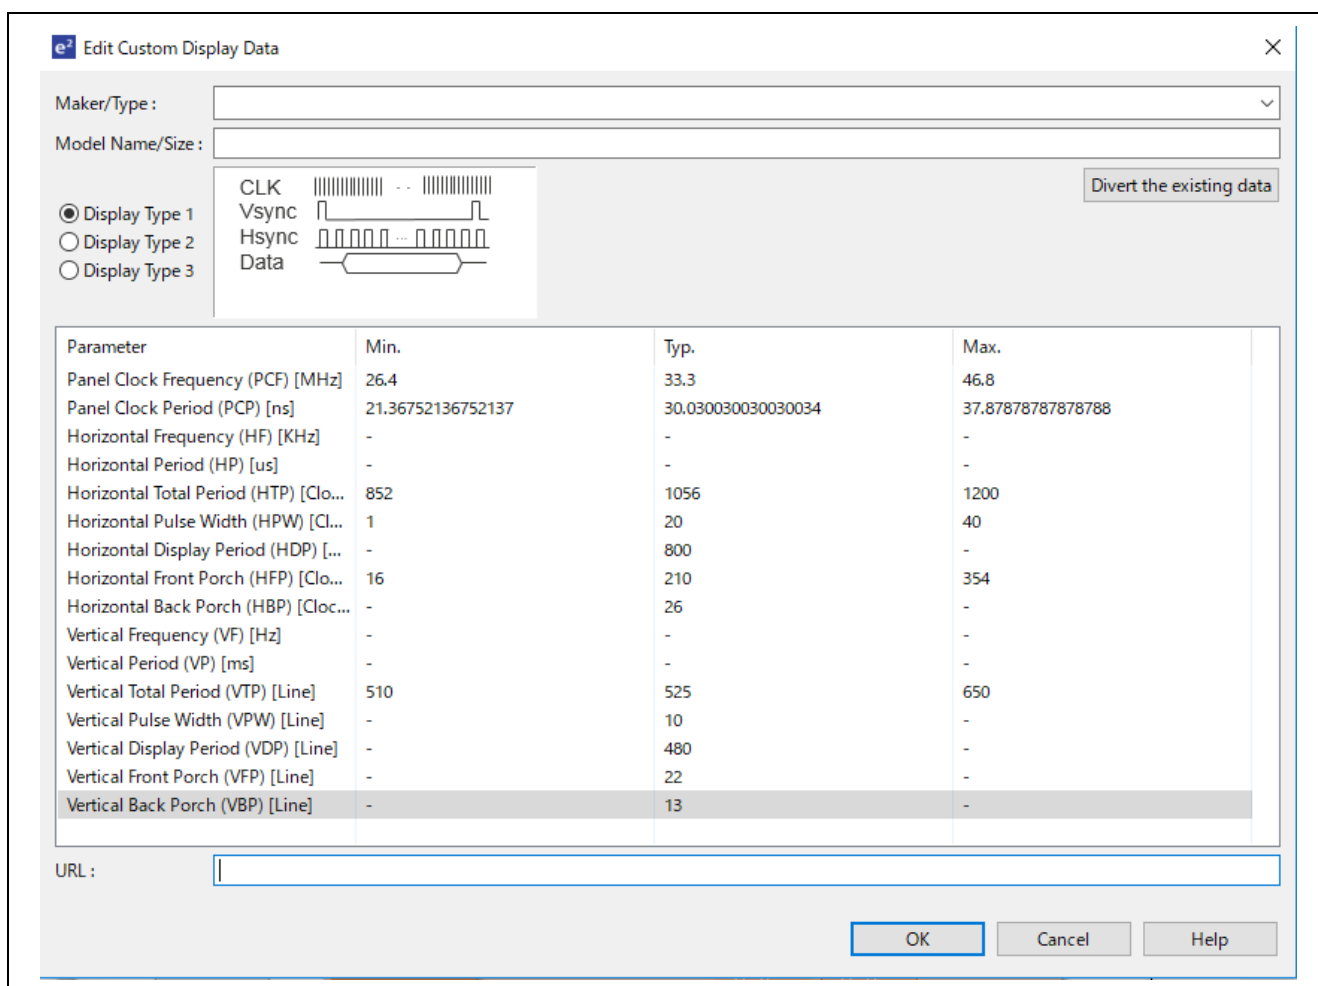

Figure 9-5 Inputting Control Timing Values
The Edit Custom Display Data dialog box needs to be filled in by user according to the specification of display equipment like section 5.2 (Figure9-5). The values input under **Typ** are used for timing control, and the values input under **Min** and **Max** are used to confirm that values are within the allowable range when the GUI is used for timing adjustment in Camera / Display Tuning RZ (QE).